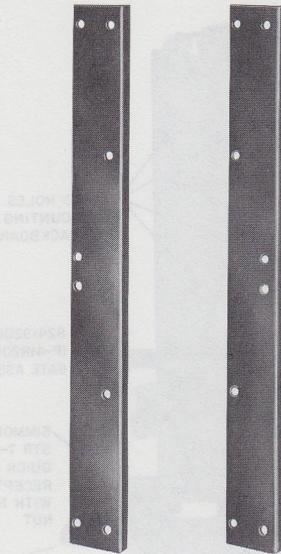

Fig. 29—Auxiliary Leg per ED-95023-70
6.04 The auxiliary leg per ED-95023-70† (Fig. 29) has two extension leg assemblies used to mount the J86731A, List 4 power plant above the 16-type apparatus mounting.